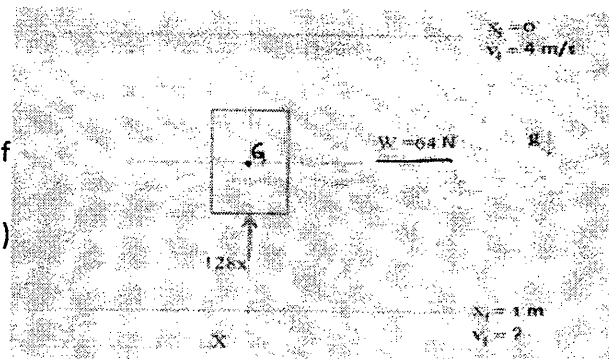

Figure 3
- D) Find the magnitude and direction of the acceleration of block. What is the t_f in depicted situation. (Refer fig 3)